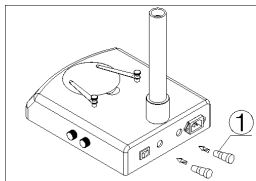

Fig.16
- 1) Screw the fuse tube out with a screwdriver and then pull the fuse out of the tube ①.
- 2) Renew the fuse and mount it in an adverse way. (Fig.16)